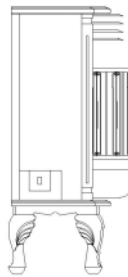

Figure 12-2 On/Off Switch
2. Set the Switch on OFF location. (See Figure 12-2)
If you didn't receive or mis-place your remote transmitter, you can press the emergency button by a pitch rod to operate remote automatically **on** or **off** (see fig 12-2)